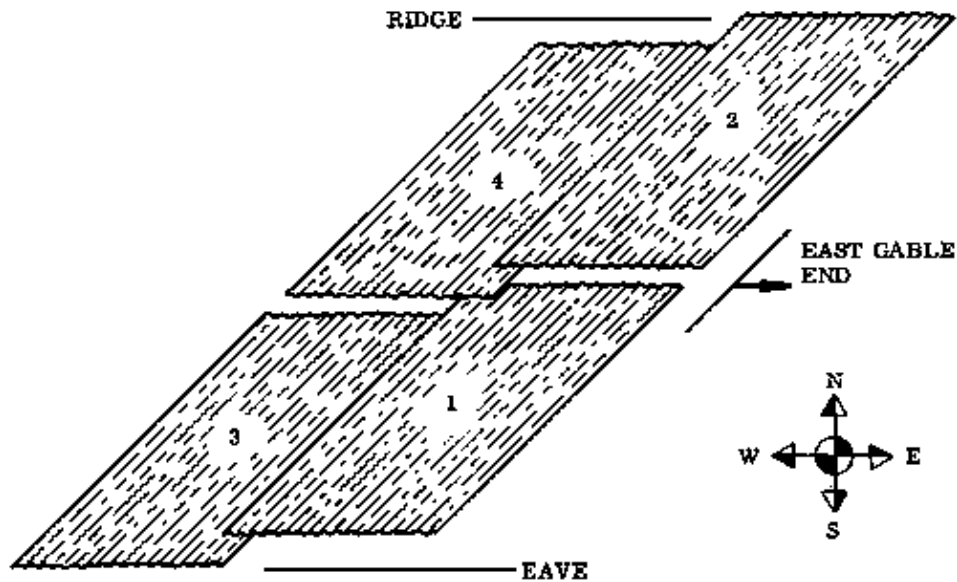

Fig. 2
- a. Place sheets 1 and 2 loosely along the gable end, with sheet 2 overlapping sheet 1 by 15 cm in the length (Fig. 2).
- f. Place sheet 3, lifting up the edge of sheet 1 until it overlaps sheet 3 by two corrugations (Fig. 2).